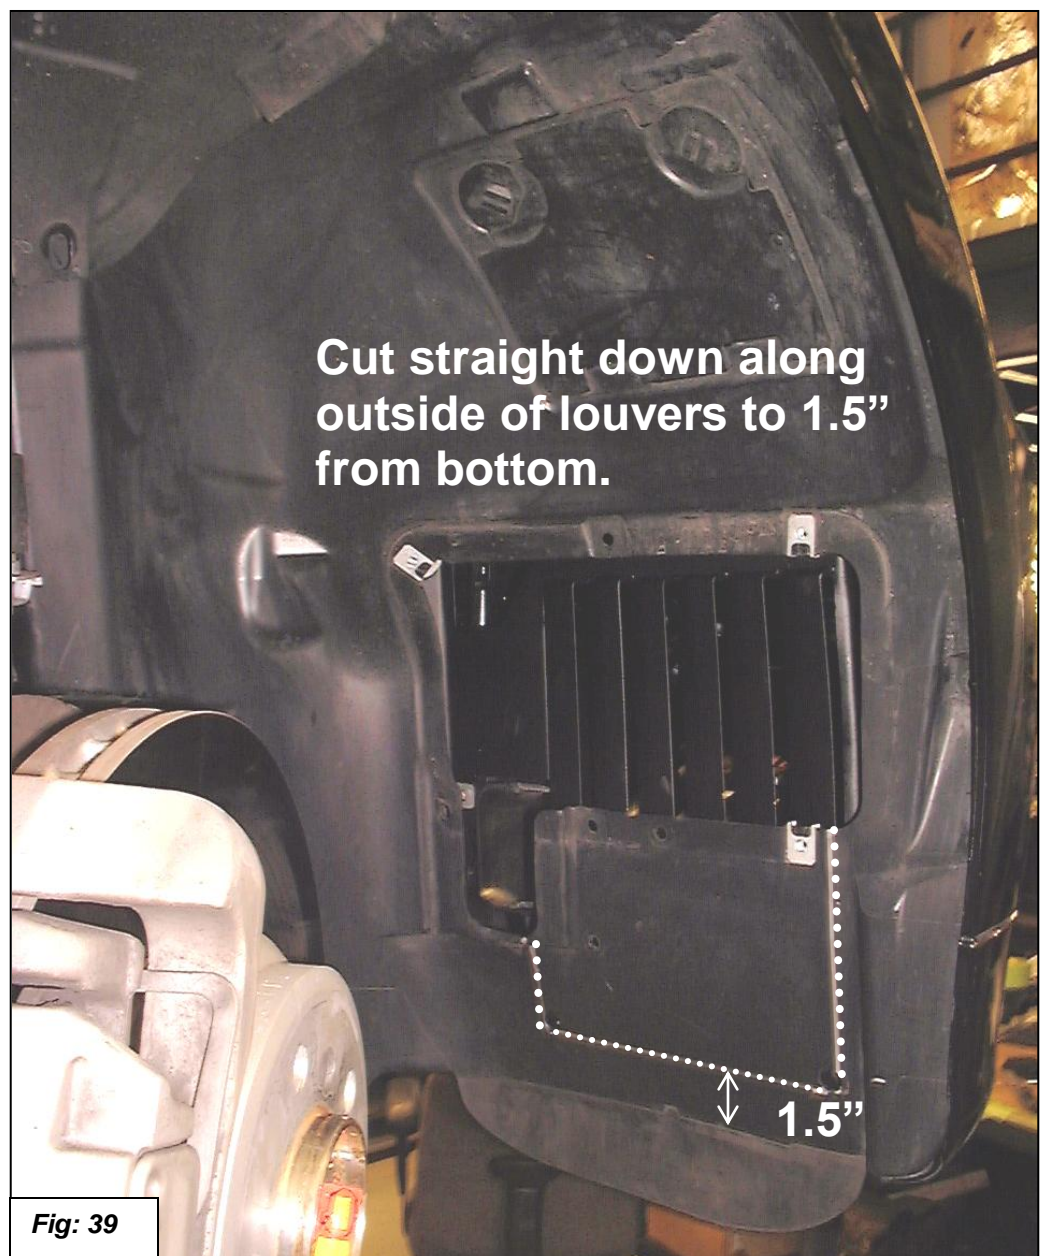

Fig: 39
40. Fit the inner fender into position and mark as shown in figure 39 so you can enlarge the opening for the oil cooler vent.